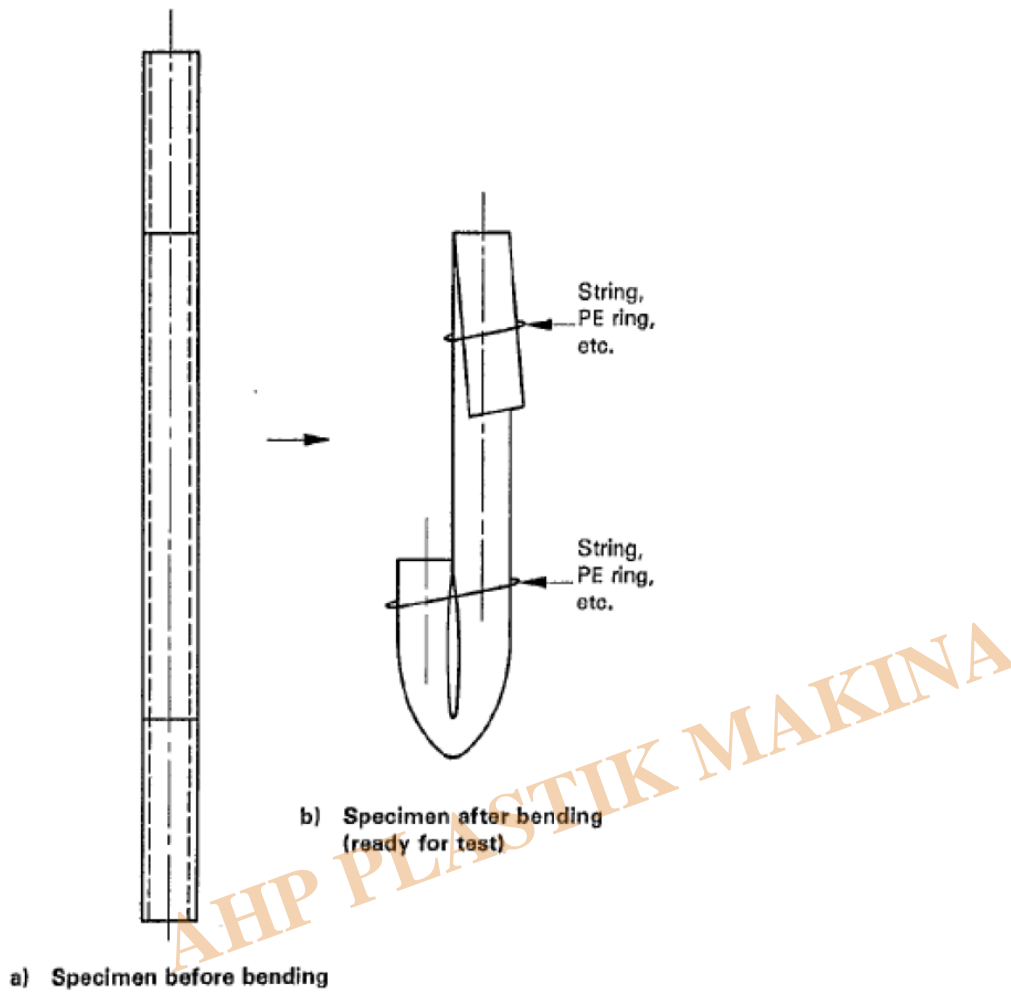

Figure 2 — Preparing the U-bends
4.4.1 Bend each test piece sharply at two places, forming two U-bends in two different planes perpendicular to each other (see figure 2). The bends shall be located at least $3d$ away from the ends of the test piece. Each bend is folded back through 180° until both sides of the fold meet, then properly secured to maintain the deformation throughout the test (see figure 2).